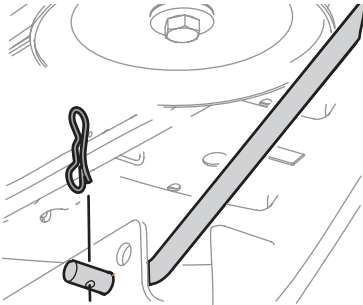

Figure 43
14. Pull the bow-tie pin out of the front deck lift rod securing it to the deck. See Figure 43. Slide the deck lift rod out of the front hanger bracket.